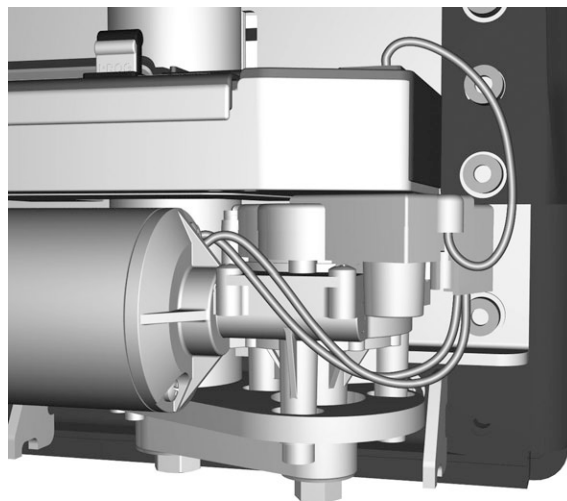

Figure 110. Disconnect the motor cable from the ICS-Master Module.
4. Disconnect the motor cable from the ICS-Master Module. See fig. 110.